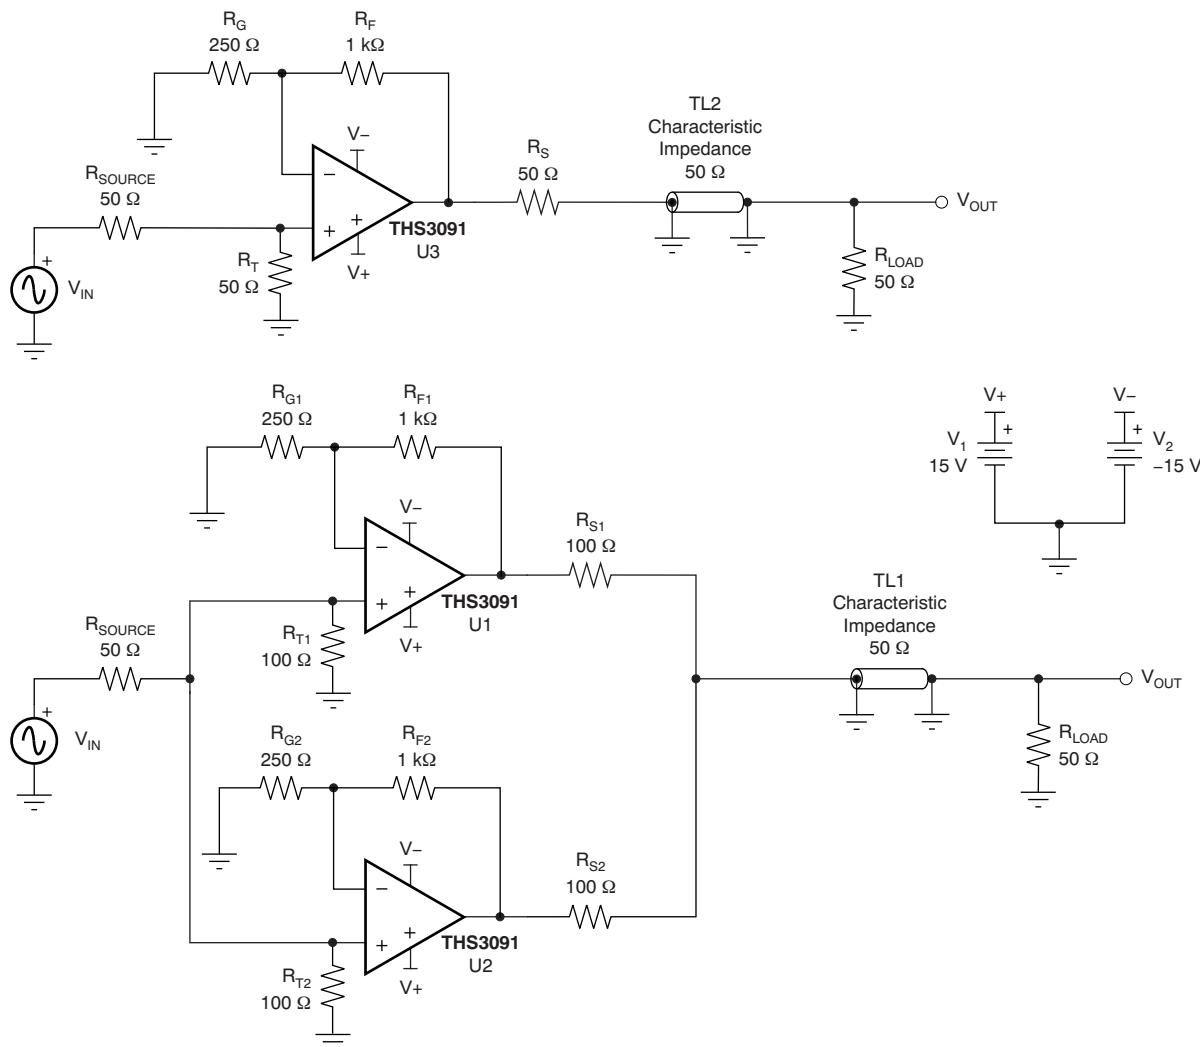

Figure 71. Reference THS3091 and THS3091 Load Sharing Test Configurations
The fundamental concept of load sharing is to drive a load using two or more of the same operational amplifiers. Each amplifier is driven by the same source. Figure 71 shows two THS3091 amplifiers sharing the same load. This concept effectively reduces the current load of each amplifier by 1/N, where N is the number of amplifiers.
matching resistance (refer to Figure 71) driving a resistive load (RL), each series resistance is $2 \times RL$ and each amplifier drives $2 \times RL$. A convenient indicator of whether an op amp will function well in a load sharing configuration is the characteristic performance graph of harmonic distortion versus load resistance. Such graphs can be found in most of TI's high-speed amplifier data sheets. These graphs can be used to obtain a general sense of whether or not an amplifier will show improved distortion performance in load sharing configurations.
Two test circuits are shown in Figure 71, one for a single THS3091 amplifier driving a double-terminated, $50\text{-}\Omega$ cable and one with two THS3091 amplifiers in a load sharing configuration. In the load sharing configuration, the two $100\text{-}\Omega$ series output resistors act in parallel to provide $50\text{-}\Omega$ back-matching to the $50\text{-}\Omega$ cable.